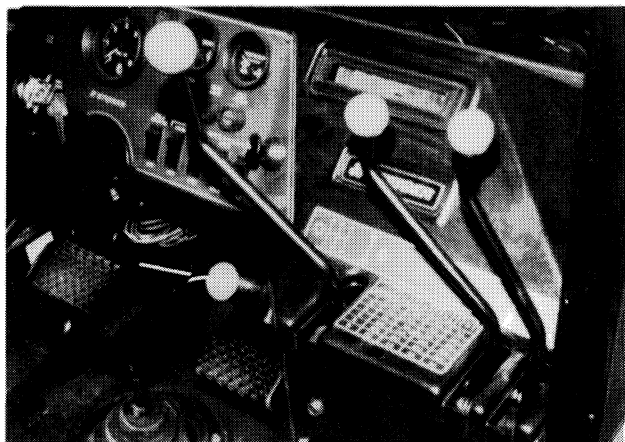

Figure 2:
4. To stop the engine pull the stop knob all the way "out". After the engine stops, push the stop knob back "in" (Fig. 2).